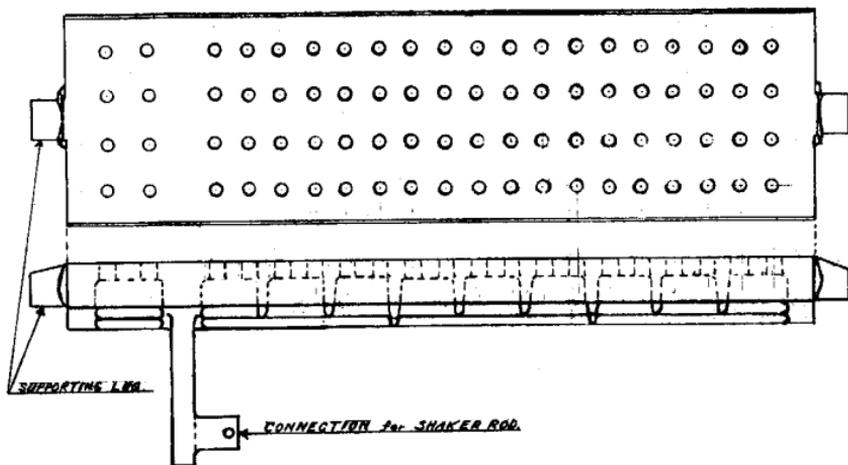

FIG. 16 - Grate Bar
**Grates**—Grates (Fig. 16, page 28) are metal bars across the bottom of the fire box for the purpose of supporting the fire. Suitable openings are provided in them to permit air to pass through the fuel bed. On most of our locomotives, the grates are coupled together in separate sections and each section can be operated from the cab by means of the grate shaker post located at the bottom of the back head.